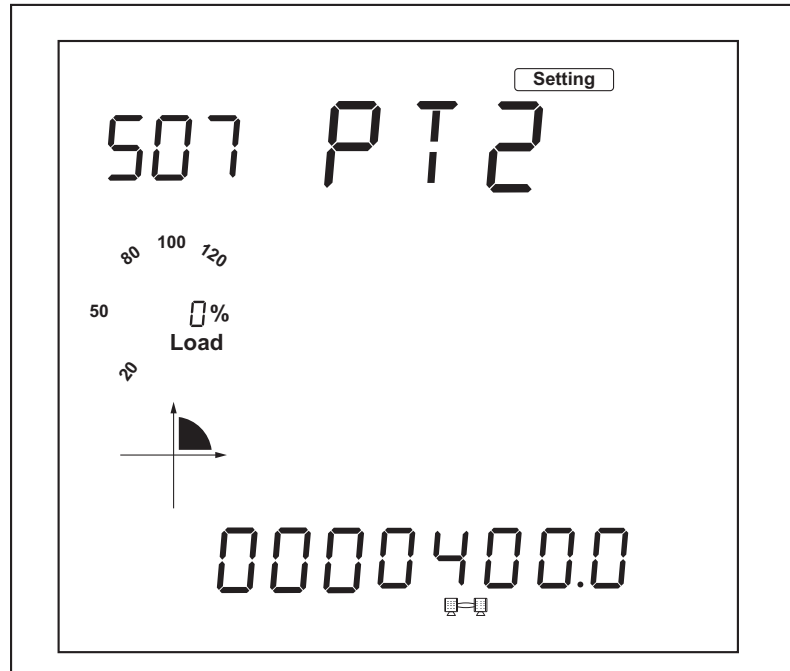

Figure 11: S07: PT2 screen
9. Press **P** to get to screen S07: PT2 (Figure 11 on page 11).